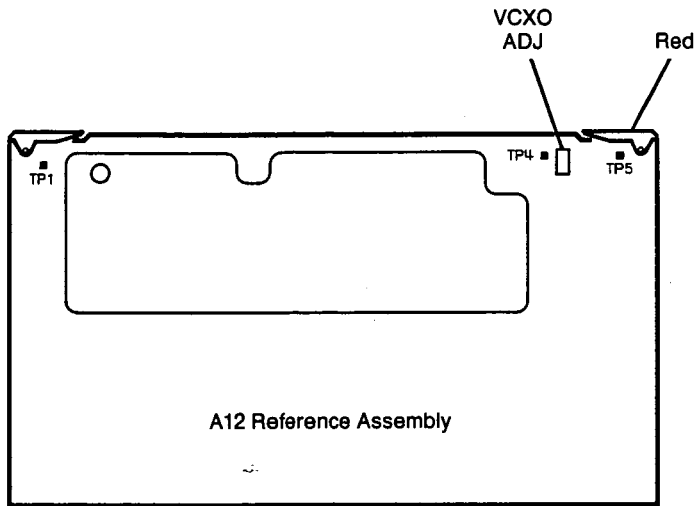

Figure 10. VCXO Adjustment Location
3. Otherwise, locate the A12 assembly (red extractors) and adjust VCXO ADJ (see Figure 10) for a frequency counter reading as close to 20 GHz as possible. It must be within \pm 200 kHz.